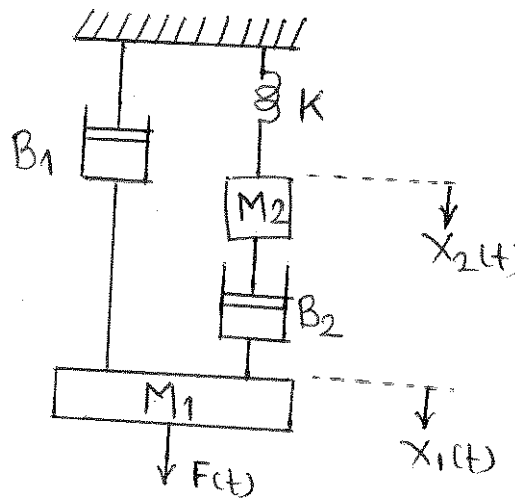

Fig. 2a
- 2. a) Draw the mechanical network for the system in Fig. 2a, and obtain its F-V analogous circuit. 10